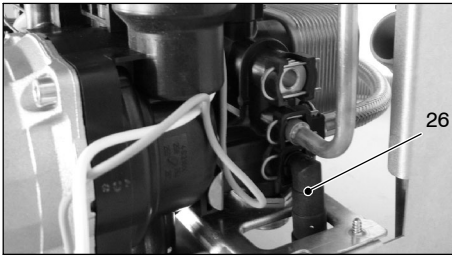

Fig. 9.4
- 2 Open the central heating drain cock (26 in Fig. 9.4).